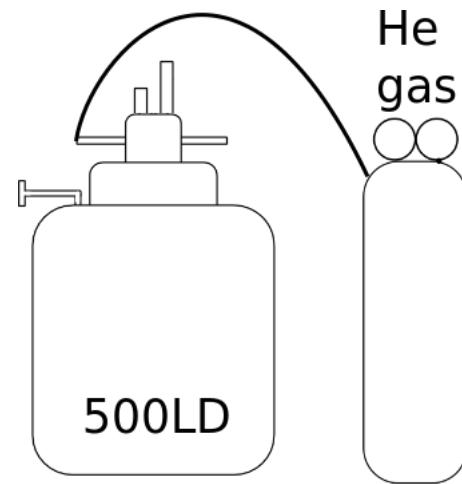

Figure 4.7: Initial 500LD fill, purging the 500LD with He gas (Step 5).
5. [initial 500LD fill only] Purge the 500LD with helium gas by hooking up the pressurization line, closing the main flow valve, opening the pressure release valve and putting 5 pounds of pressure on the 500LD for about 10 minutes (Figure 4.7). Remove the pressurization line.